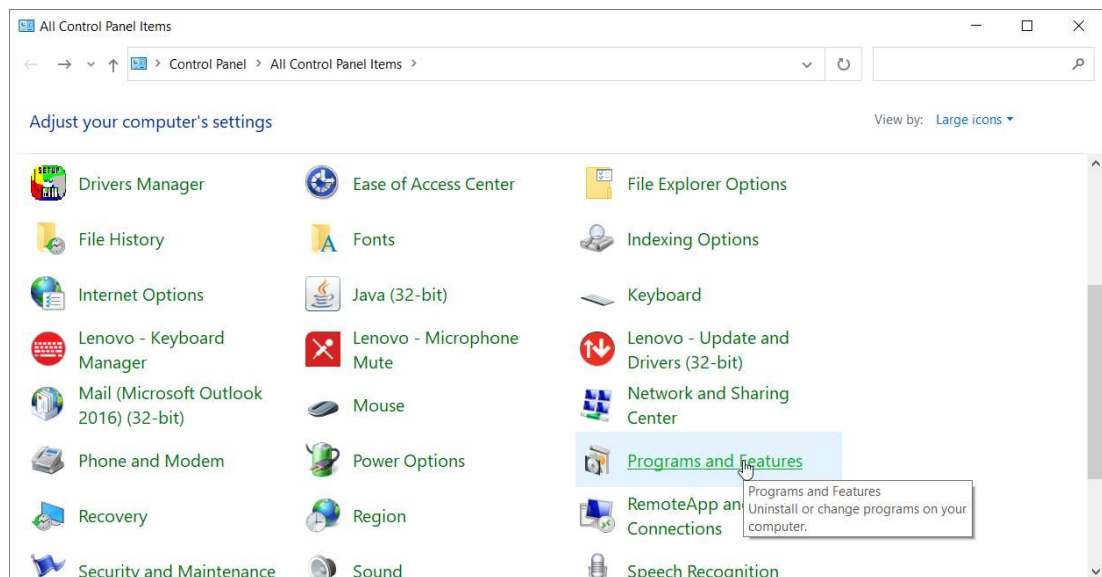

Figure 1. Windows Control Panel
- Open the Control Panel (See Figure 1).